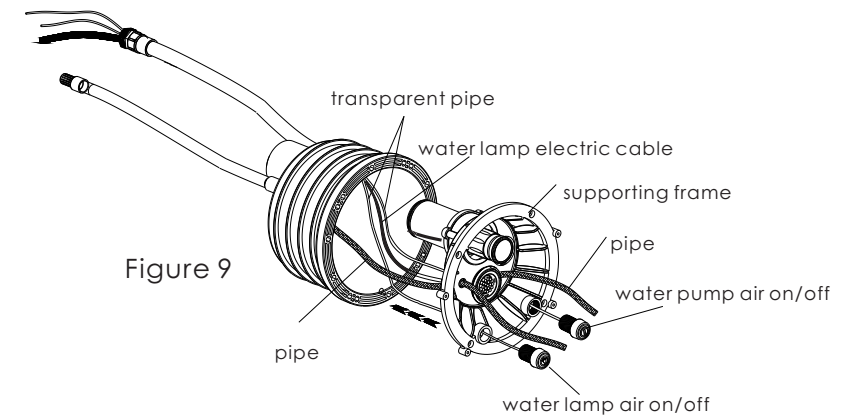

Figure 9
- 1) First use $\varnothing 5$ transparent air tube and LED light cable respectively to pass through the connecting tube, then connect the two air pipes to the pump switch and pool light air switch respectively. (Figure 9)